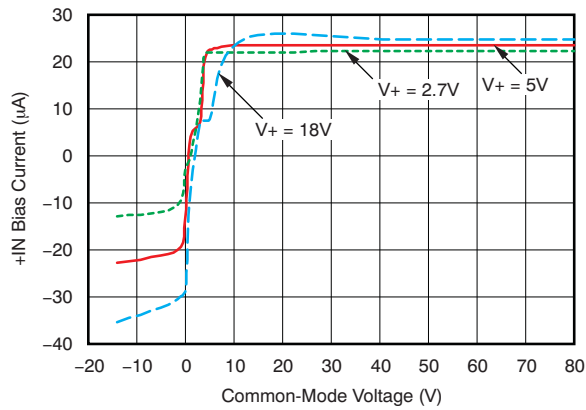

Figure 7. INA283-Q1 +IN BIAS Current vs Common-Mode Voltage
(1) RTI = referred-to-input.
(2) See typical characteristic graph Figure 7.
(3) The average of the voltage on pins REF1 and REF2 must be between  $V_{GND}$  and the lesser of  $(V_{GND} + 9\text{ V})$  and  $V_+$ .